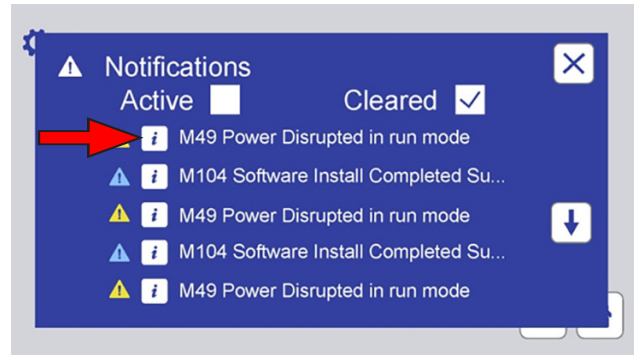
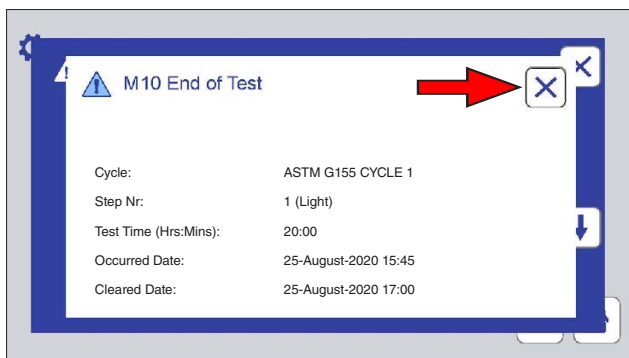

Figure 11.4f: Touch the information icon to display notification details.
Figure 11.4g: Notification details. Touch the Close icon to return to the Notifications Screen.
- Touch the notification information icon to display details (Figure 11.4f and Figure 11.4g).